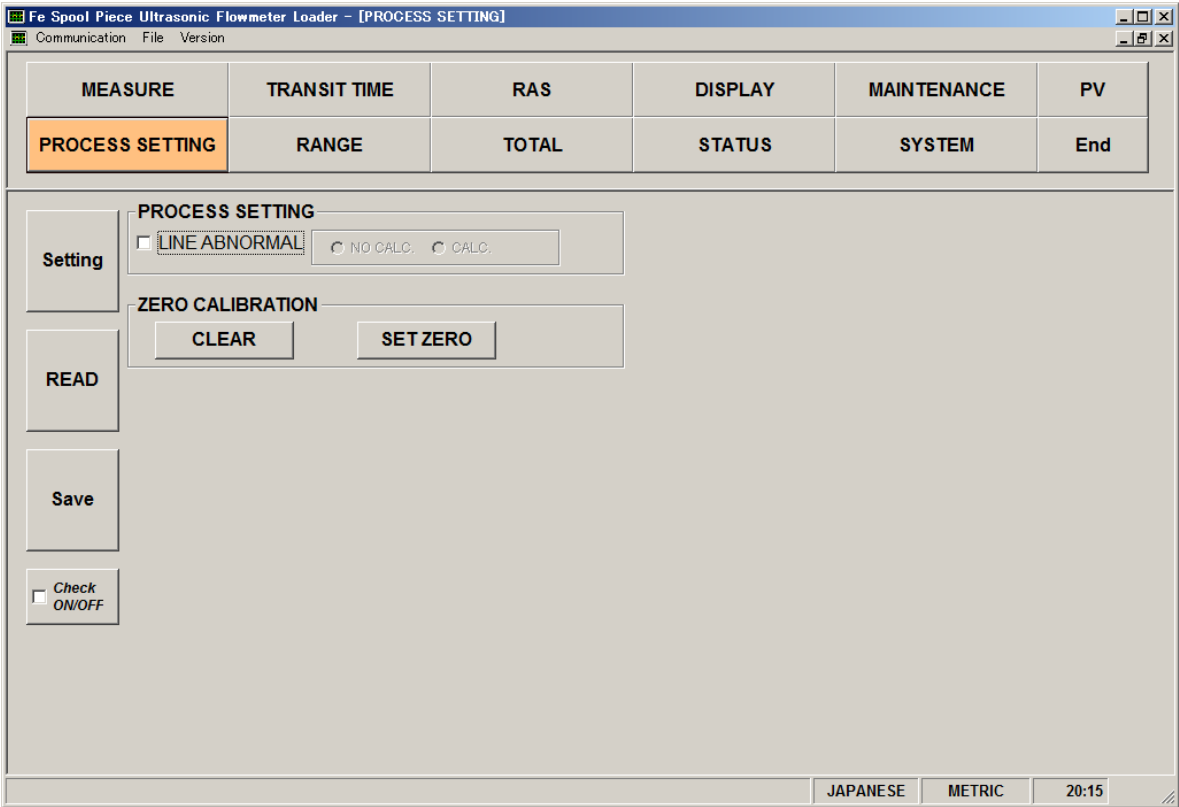

Fig. 8-13 Process setting screen
* The version number in Fig. 8-13 is an example.